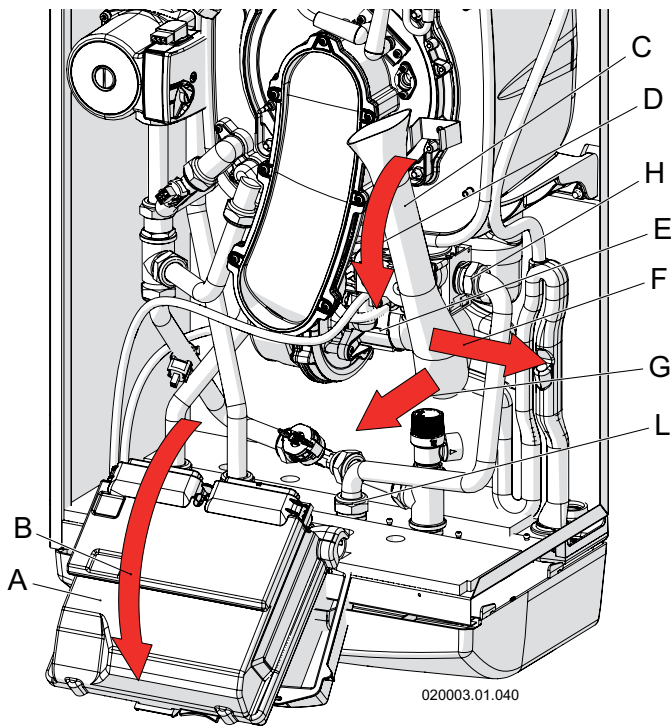

Figure 6-3 - Removing the air manifold
- 13 - remove the air manifold making sure to turn it externally and then slide it out of the fan inlet (see figure 6-3, detail "C");
- 15 - remove the gas inlet pipe via the two fittings (see figure 6-3, details "H" and "L");
20. - remount the gas supply pipe via the two fittings (see figure 6-3, details “H” and “L”);
21. - remount the air manifold (see figure 6-3, detail “C”);